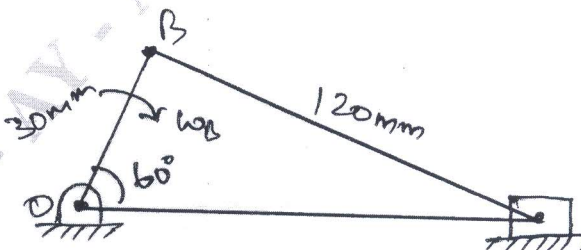

Fig Q4
- 4 In a slider crank mechanism the crank OB = 30mm and the connecting rod BC = 120mm. The crank rotates at a uniform speed of 300rpm clockwise. For the crank position shown in Fig Q4, in which the crank is turned 60°. Find : i) Velocity of Piston C and angular velocity of connecting rod BC ii) Acceleration of piston C and angular acceleration of connecting rod BC.